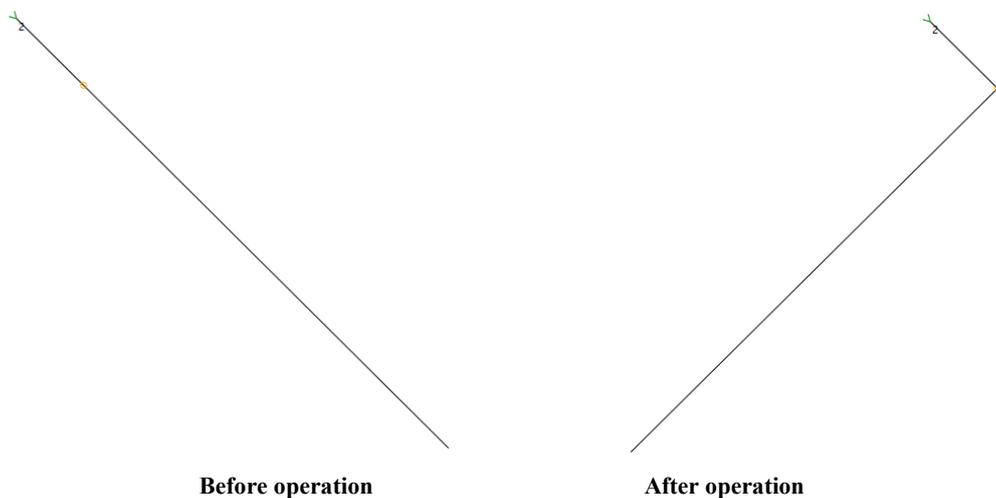

Fig. 5.6.5d Schematic Diagram of Y-axis Mirroring Operation
③ When the "Reference Point as Center" is checked, click "Y-axis Mirroring" or "X-axis Mirroring". Here, Y-axis mirroring is taken as an example. The graphics will be mirrored on the Y axis with the reference point as the center, and the operation diagram is shown in Fig. 5.6.5d below.